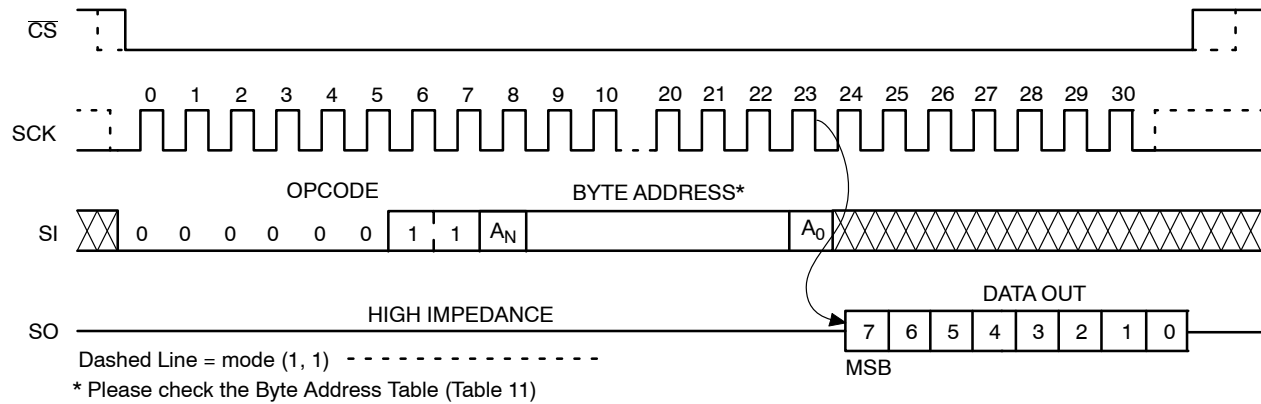

Figure 8. READ Timing
After receiving the last address bit, the NV25xxx will respond by shifting out data on the SO pin (as shown in Figure 8). Sequentially stored data can be read out by simply continuing to run the clock. The internal address pointer is automatically incremented to the next higher address as data is shifted out. After reaching the highest memory address, the address counter “rolls over” to the lowest memory address, and the read cycle can be continued indefinitely. The read operation is terminated by taking $\overline{CS}$ high.
Reading the additional 64-byte Identification Page (IP) is achieved using the same Read command sequence as used for Read from main memory array (Figure 8). **The IPL bit from the Status Register must be set (IPL = 1) before attempting to read from the IP.** The [A4:A0] are the address significant bits that point to the data byte shifted out on the SO pin. If the $\overline{CS}$ continues to be held low, the internal address register defined by [A4:A0] bits is automatically incremented and the next data byte from the IP is shifted out. The byte address must not exceed the 64-byte page boundary.